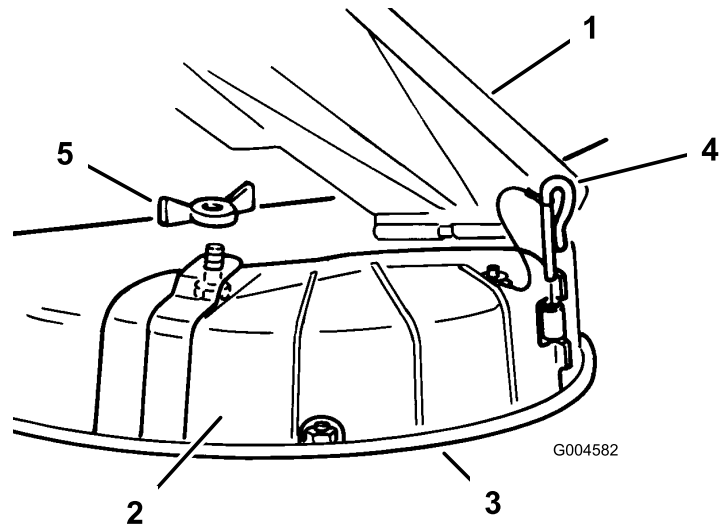

Figure 15
3. Lift the grass deflector and place the discharge cover over the opening onto the lower lip of the mower and slide it into the front hinge (Figure 15).
4. Slide the hinge pin through the hinge (Figure 15).
5. Secure the discharge cover to the mower with the wing nut (Figure 15).